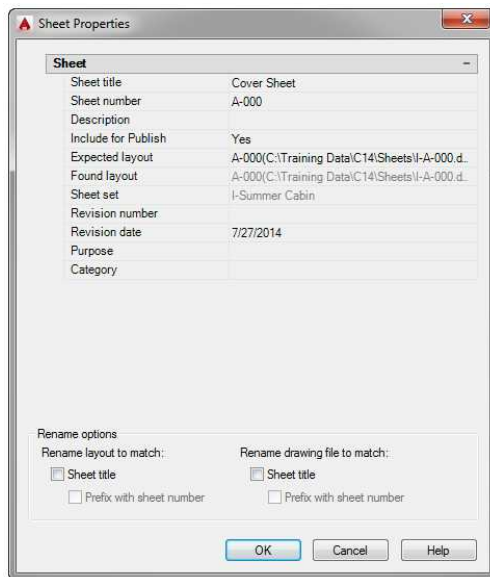

FIGURE 14.40: Changing the properties for sheet A-000
2. Enter the following values, as shown in Figure 14.40: